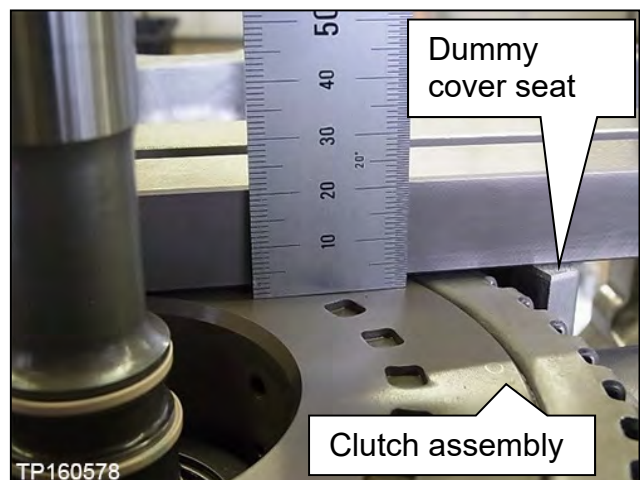

Figure 133
- The clutch assembly should sit 1-3 mm lower than the dummy cover seat (Figure 133).